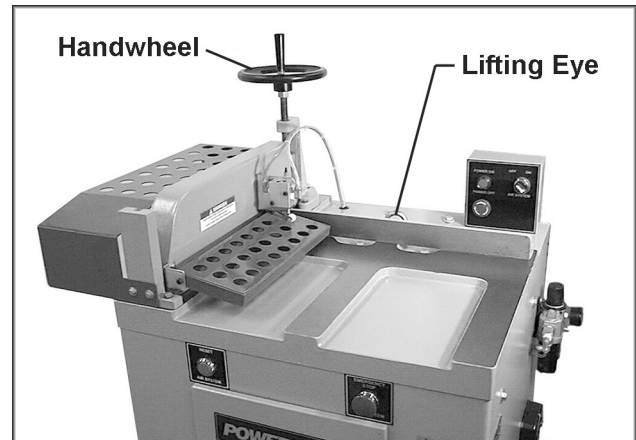

FIGURE 3
1. Lift the machine with a hoist or forklift, using a sling through the lifting eye on top the machine, shown in Figure 3. Make sure the capacity of the lifting unit is sufficient to safely lift this size machine.
Install the handwheel onto the threaded rod as shown (Fig. 3).